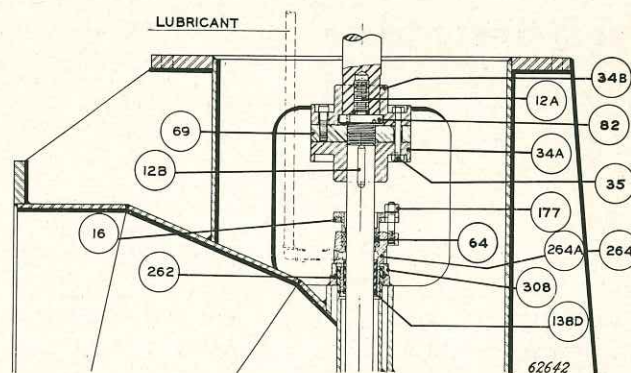

Fig 7. Stuffing box detail and coupling detail of unit with solid-shaft driver. See Fig. 9 for part names.
b. *Solid-Shaft Drives (Fig. 7)*